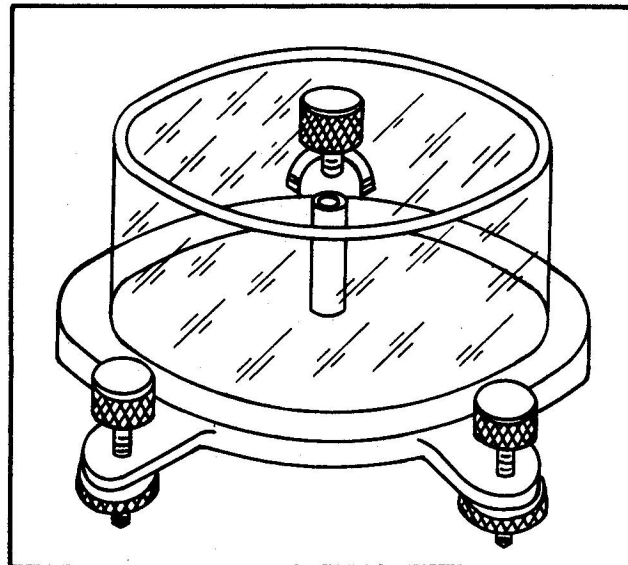

Figure 2-6. Compass Balancing Stand (G-4903)
2-25. PIVOT. Use a magnifier to inspect the pivot which is attached to the centerpiece of the card (25). The pivot contour should be as shown in figure 2-6 and the surface should be smooth and free from scratches.